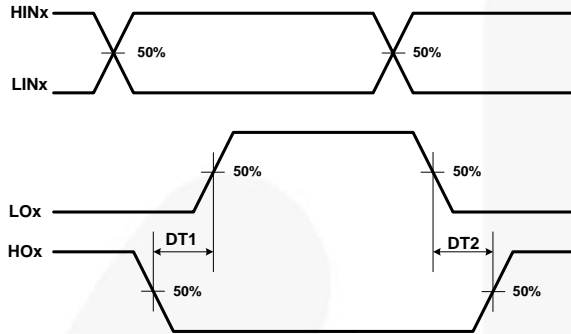

Figure 38. Internal Dead-Time Definitions
7. MDT is defined as $|DT1-DT2|$ referenced to Figure 38.
Dead time is automatically inserted whenever the dead time of the external two input signals (between HINx and LINx signals) is shorter than internal fixed dead times (DT1 and DT2). Otherwise, external dead times larger than internal dead times are not modified by the gate driver and internal dead-time waveform definition is shown in Figure 38.